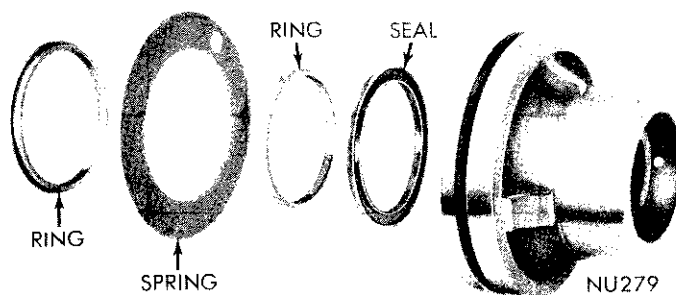

Fig. 22—Reaction Seal Ring In Shaft Support
(43) Lubricate and install reaction seal in groove in face of housing head with flat side of seal out (Fig. 22 and 23). Install "O" ring in groove on housing head.
(44) Slide housing head and arbor, Tool C-3929 over the wormshaft carefully engaging cylinder head ferrule and "O" ring and making sure reaction rings enter circular groove in housing head. The power train is now ready for installation in housing.
(45) It is generally not necessary to remove sector shaft cover. However, this may be easily accomplished